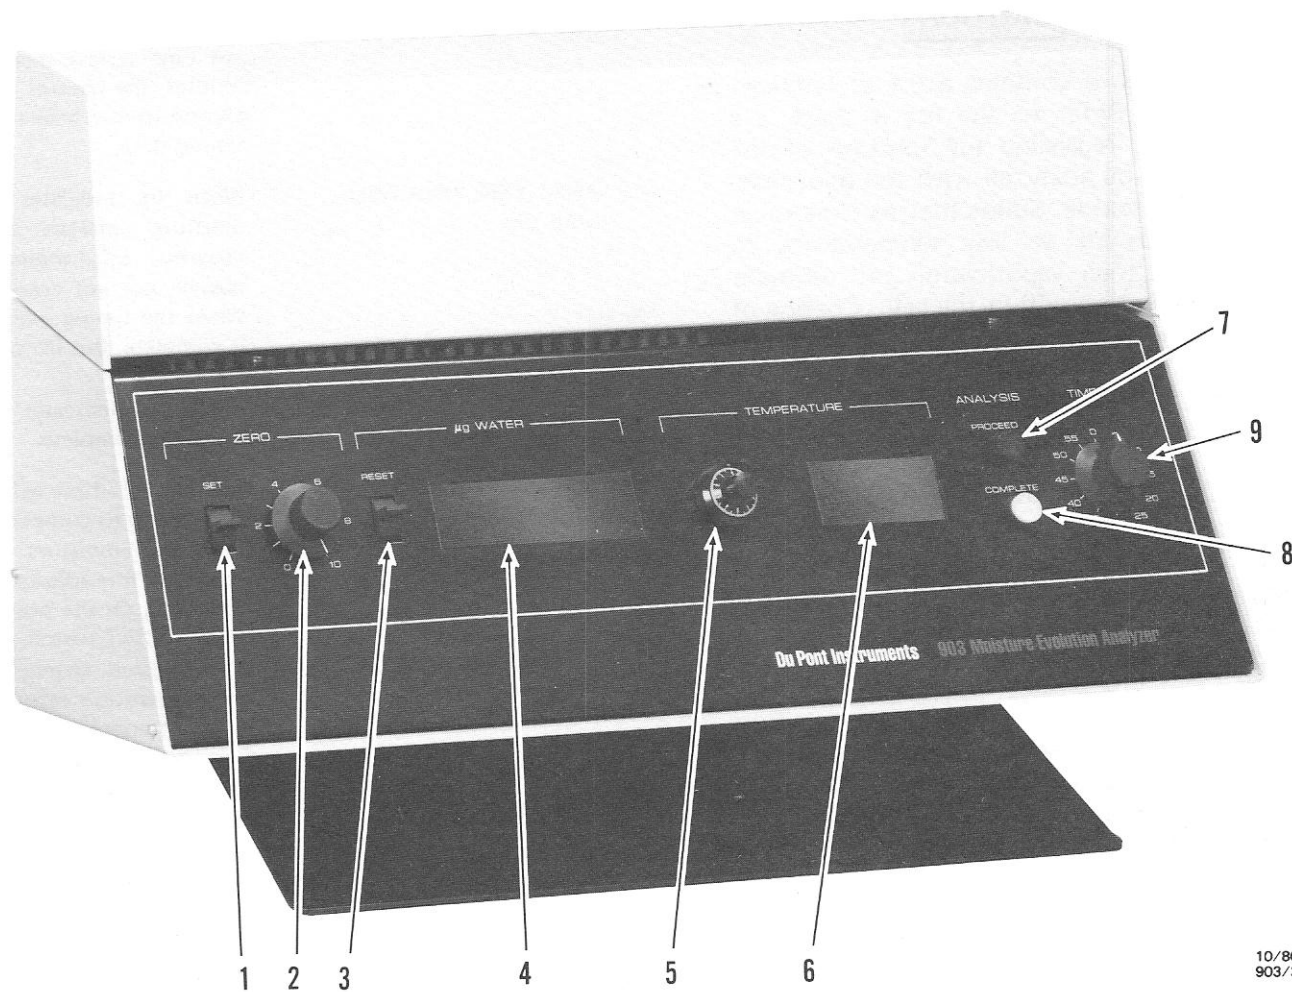

Figure 3-1. Location of Controls and Indicators.
(1) Connect the power cord to the analyzer and to a receptacle of proper voltage (110, 120, or 240 Volts ac).
(2) Turn the ZERO control fully clockwise. See figure 3-1 for location of controls, if necessary.
(3) Turn the TEMPERATURE control clockwise to 1.0
Table 3-1 lists the controls and indicators and briefly describes their function. See figure 3-1 for their locations.